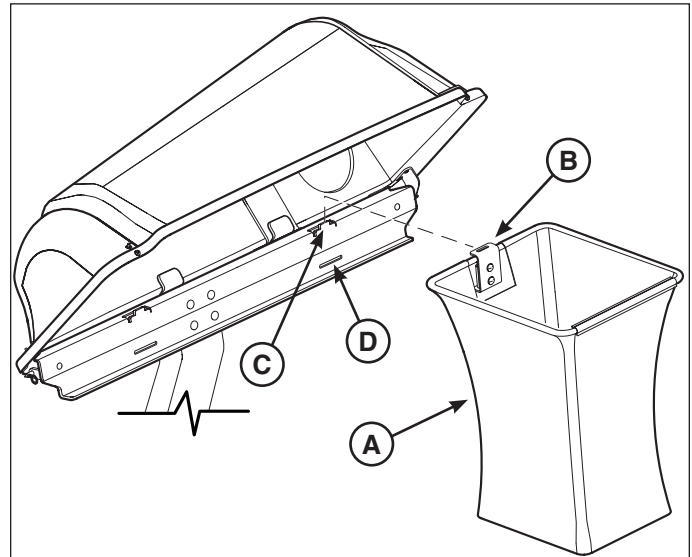

Figure 5
1. With the catcher cover raised, install the two grass bag assemblies (A, Figure 5) onto the catcher frame as shown. Be sure the slot (B) in the top of each grass bag hanger fits onto the tab (C) in the cross support, and the bottom of each grass bag hanger fits into the slot (D) in the cross support.